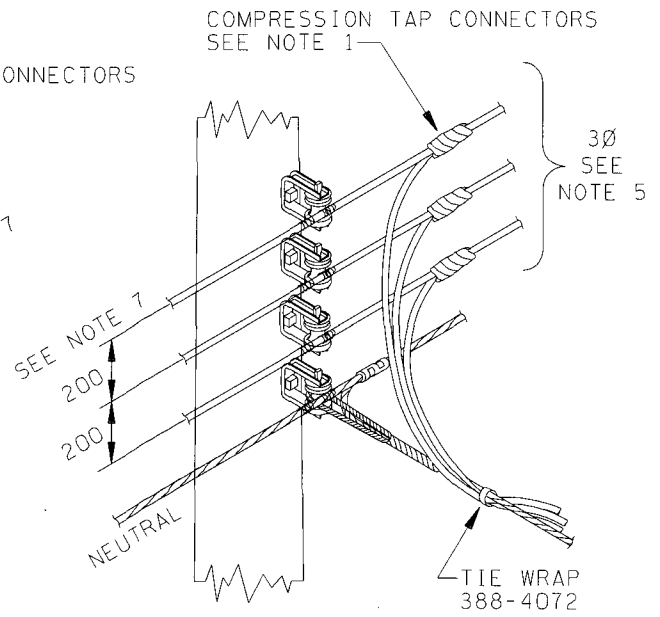

FIG. 3
5. If single phase is on same pole as three phase in Fig. 3, refer to ES43 N1-01.02.